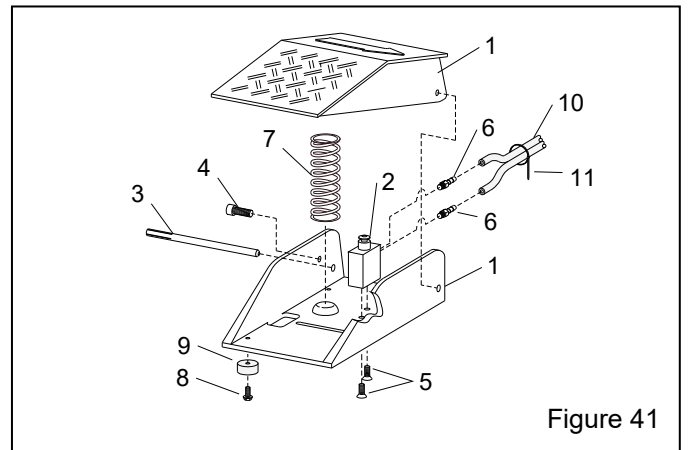

Figure 41
9.7 Foot-Pedal Assembly – Figure 41